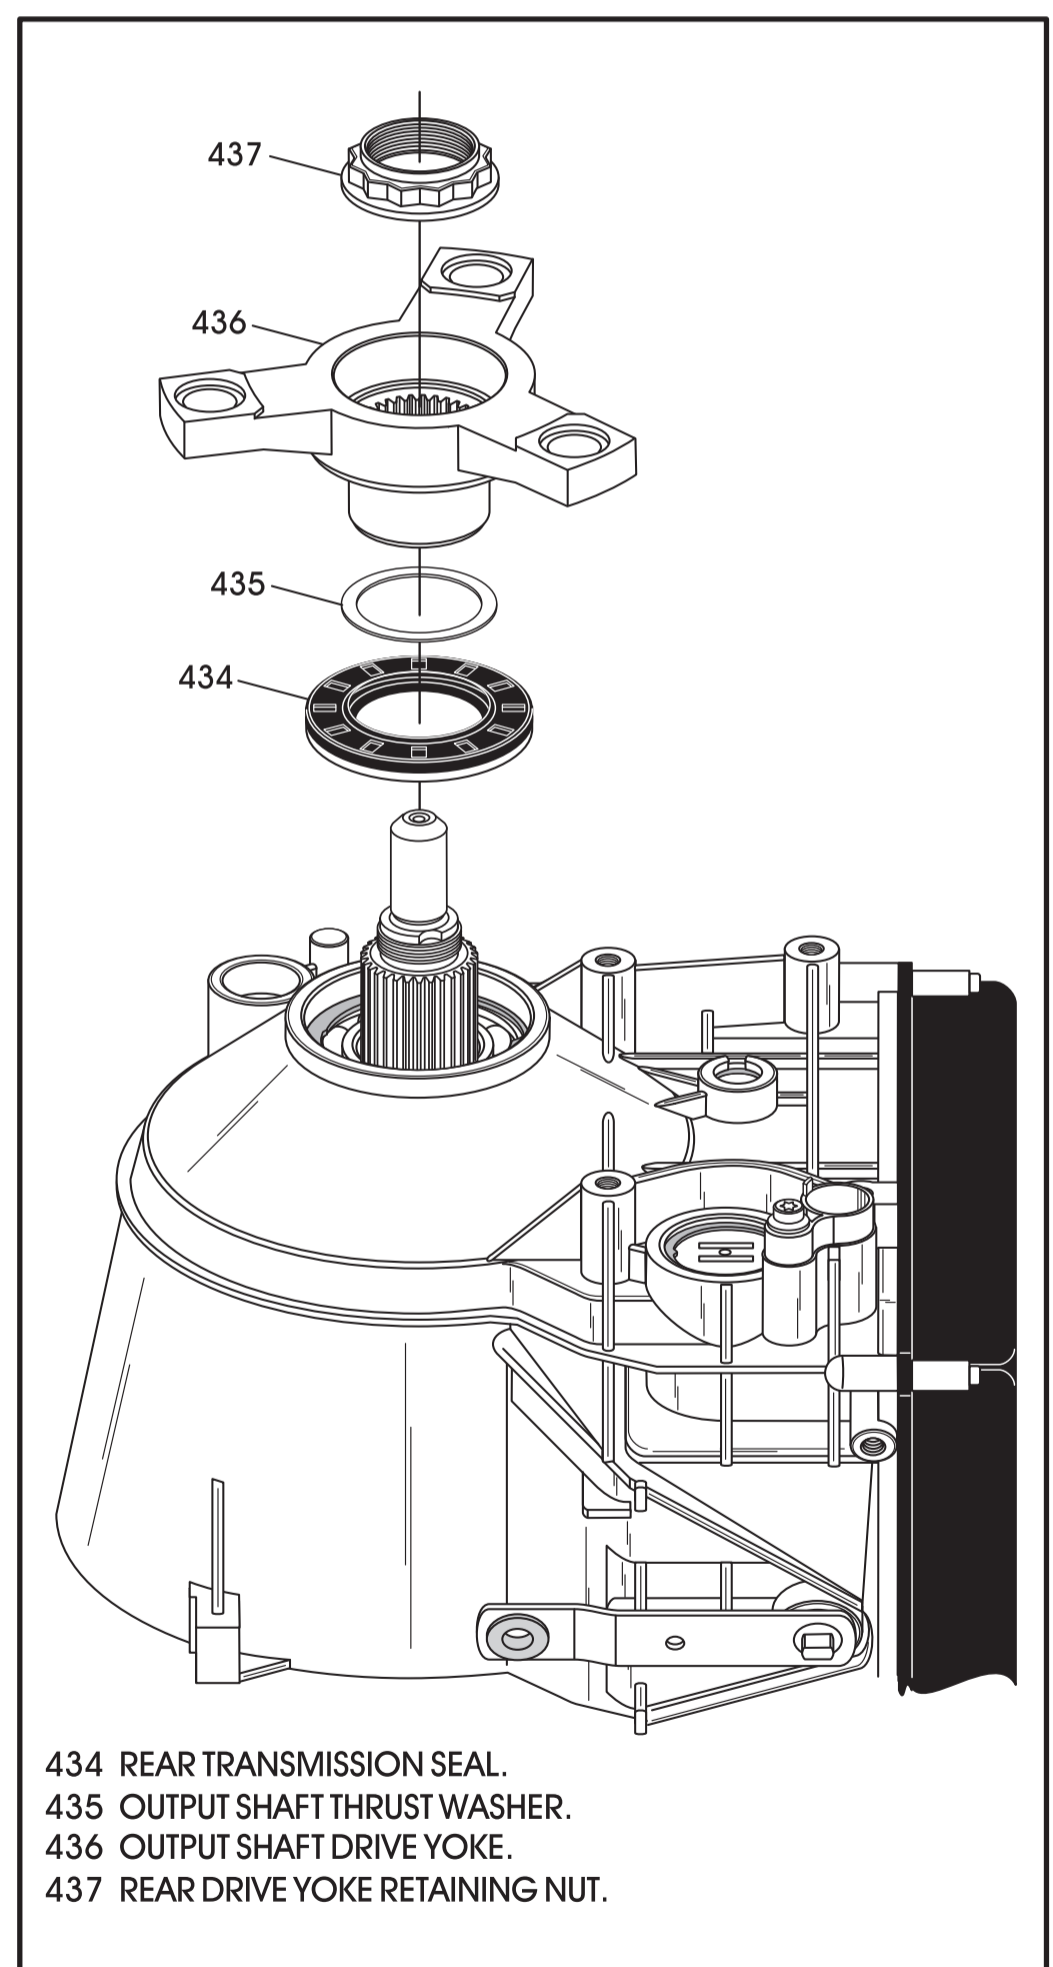

Figure 43
8. Rotate transmission so that output shaft yoke is facing up, as shown in Figure 43.
10. Remove the output shaft drive yoke retaining nut, using a 30 mm, 12 point socket, as shown in Figure 43.
11. Remove the output shaft drive yoke, as shown in Figure 43.
12. Remove and discard the transmission rear seal, as shown in Figure 43.
13. Remove the transmission output shaft washer, as shown in Figure 43.